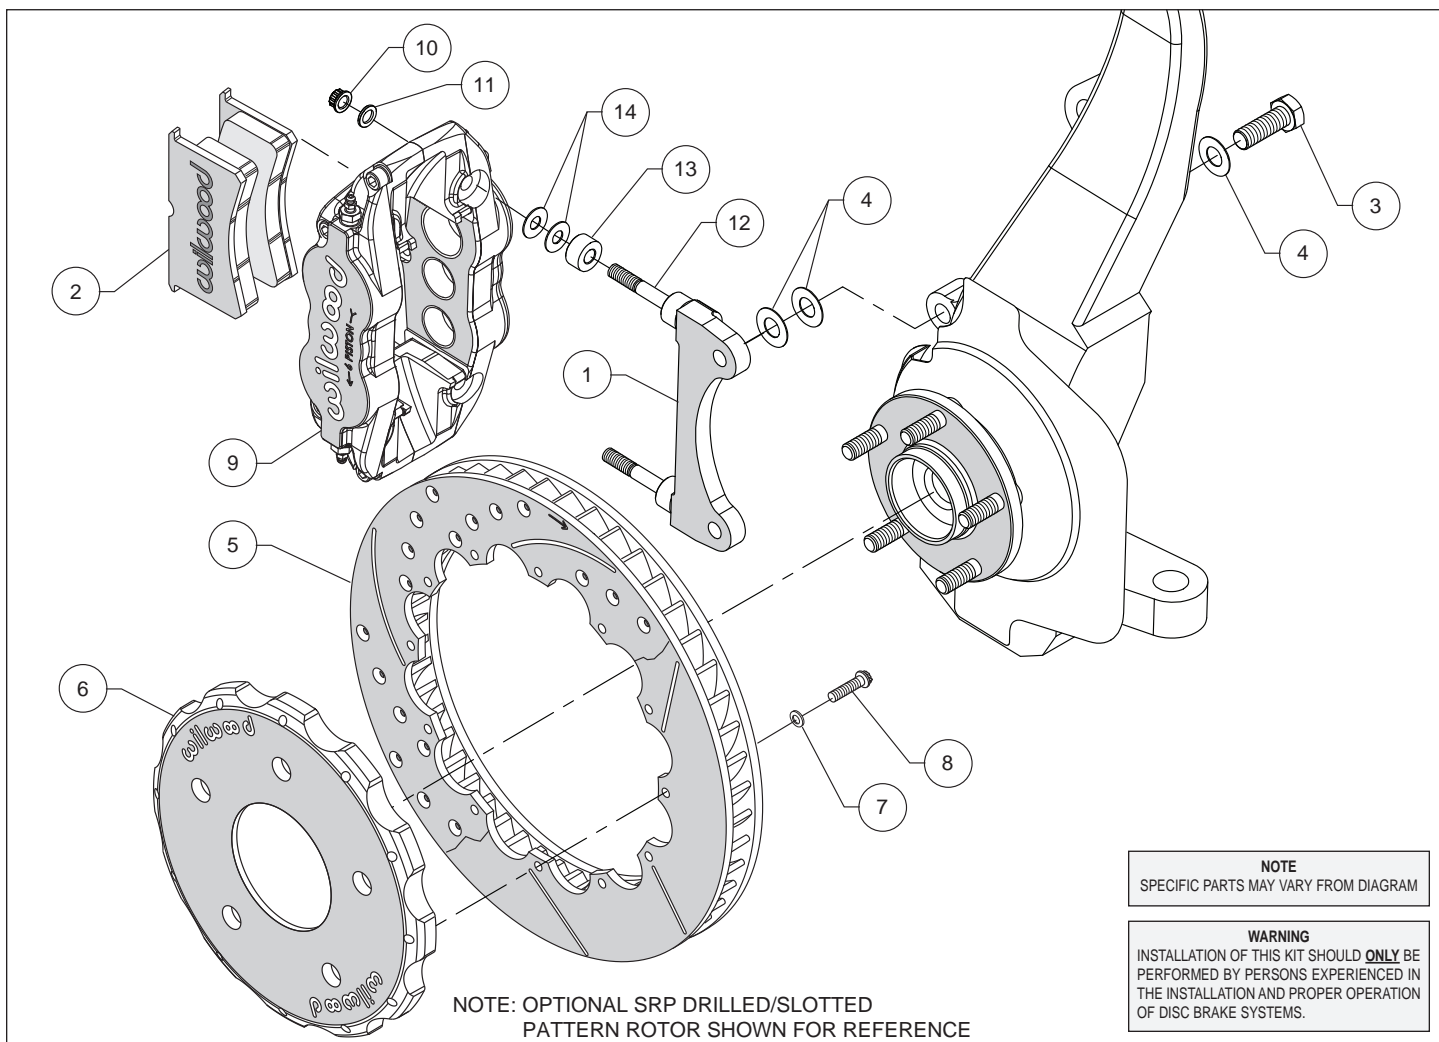
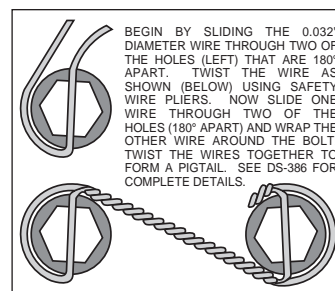

Figure 1. Typical Installation Configuration
Figure 4. Safety Wire Diagram
Assembly Instructions (numbers in parenthesis refer to the parts list and Figure 1 on the preceding pages):
•The caliper mount bracket (1) should initially be installed with clean, dry threads on the mounting bolts. Orient the bracket as shown in Figure 1 and Photo 1, and install using shim washers (4) and bolts (3). Initially place two additional shims (4) on each bolt between the bracket and upright, Figure 1. Temporarily tighten the mounting bolts. **NOTE:** The bracket must fit squarely against the mount bosses on the upright. Inspect for interference from casting irregularities, machining ridges, burrs, etc. Later, after the caliper alignment has been checked, the mount bolts will be secured using red *Loctite*® 271.
•Orient the rotor (5) and the hat (6) as shown in Figure 1 and Photo 2. Attach rotor to hat using bolts (8) and washers (7). Using an alternating sequence, apply red *Loctite*® 271 to the threads and torque bolts to 155 in-lb. For an added measure of security, the bolts may be safety wired using standard 0.032 inch diameter stainless steel safety wire as shown in Figure 4. Please refer to Wilwood's data sheet DS-386 (available at www.wilwood.com/Pdf/DataSheets/ds386.pdf) for complete safety wire installation instructions.
•**NOTE:** This kit contains distinct right and left hand calipers that must be mounted in a specific direction, as described below. Lubricate the caliper mounting studs (12) with lightweight oil. Initially place two .035" thick shims (14) and one spacer (13) on each stud as shown in Figure 1 and Photo 3. Mount the caliper (9) onto the bracket (1) using lock nuts (10) and washers (11), Figure 1 and Photo 4. Ensure that the caliper is mounted so that the largest pistons are at the rotor exit end of the caliper, in relation to the direction of rotor rotation. Temporarily tighten the lock nuts and view the rotor through the top opening of the caliper. The rotor should be centered in the caliper, Photo 5. If not, adjust by adding or subtracting shims (4) between the bracket and the upright. Always use the same amount of shims on each of the two mounting bolts. Once the caliper alignment is correct, remove the bracket mounting bolts one at a time, apply red *Loctite*® 271 to the threads, and torque to 75 ft-lb.